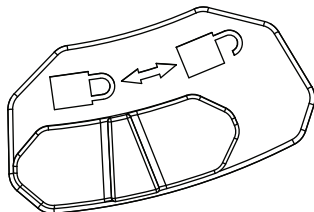

Figure 3
4. Wrap the connection with plastic or electrical tape to protect the connection. See Figure 3.